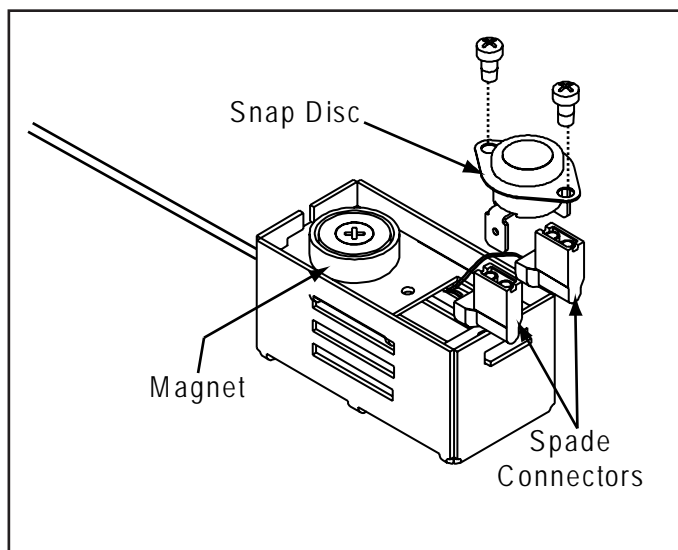

Figure 21.2
3. Pull the snap disc and spade connectors up and out of bracket as shown in **Figure 21.2**.